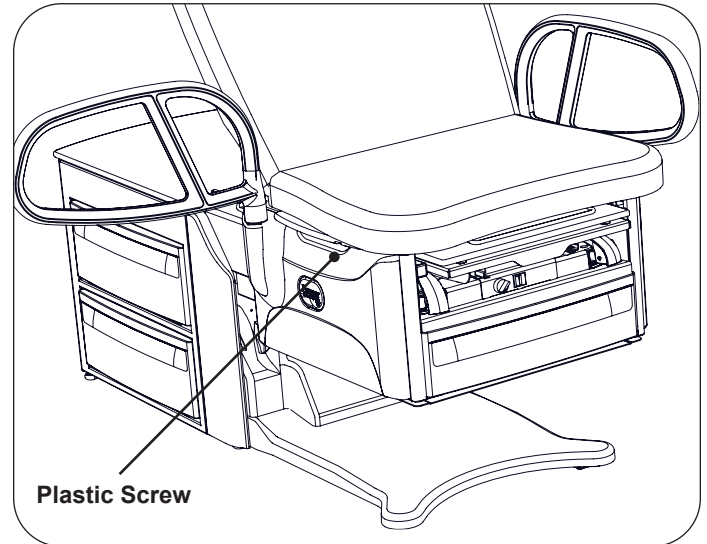

Figure 39. Location of White Plastic Stop Screw
2. Remove the white plastic screw (Figure 39).